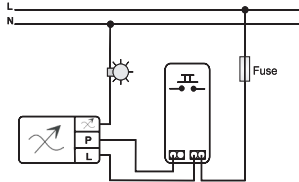

Fig.1 - RT UN/dp - RT ES UN/dp + pulsante (push button)
- 1) Bouton-poussoir NO (schéma de fig.1)
- 1) Pulsador NA (esquema de fig.1)
- 1) Schalter NA (Schema Abb. 1)